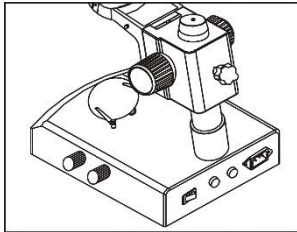

Fig. 1
- 1) Press the glass stage on the sunken place then the other side of the glass stage will be lifted. (Fig. 1)